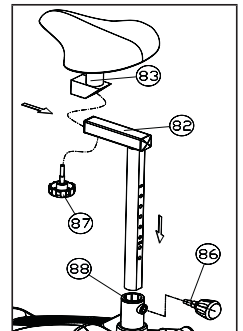

Figure 12
2.When adjusting the front and rear position of the seat cushion frame (83), just screw out the plum hand wheel (87), adjust the seat cushion frame (83) to a proper position, and then tighten the hand wheel hard; Figure 12